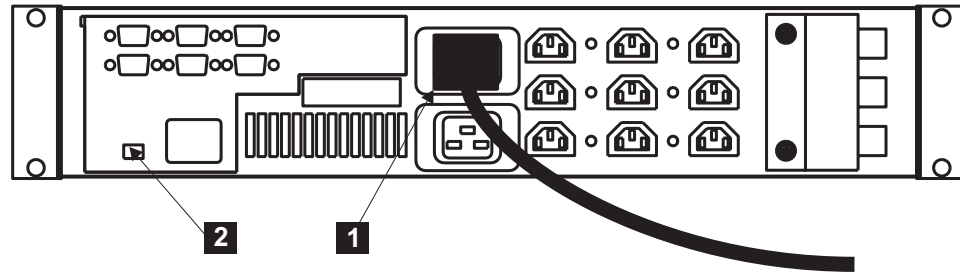

Figure 168. Installing the 2145 UPS power cable
9. At the back of the 2145 UPS, plug the 2145 UPS main power cable into the power socket, **1** in Figure 168 on page 381.